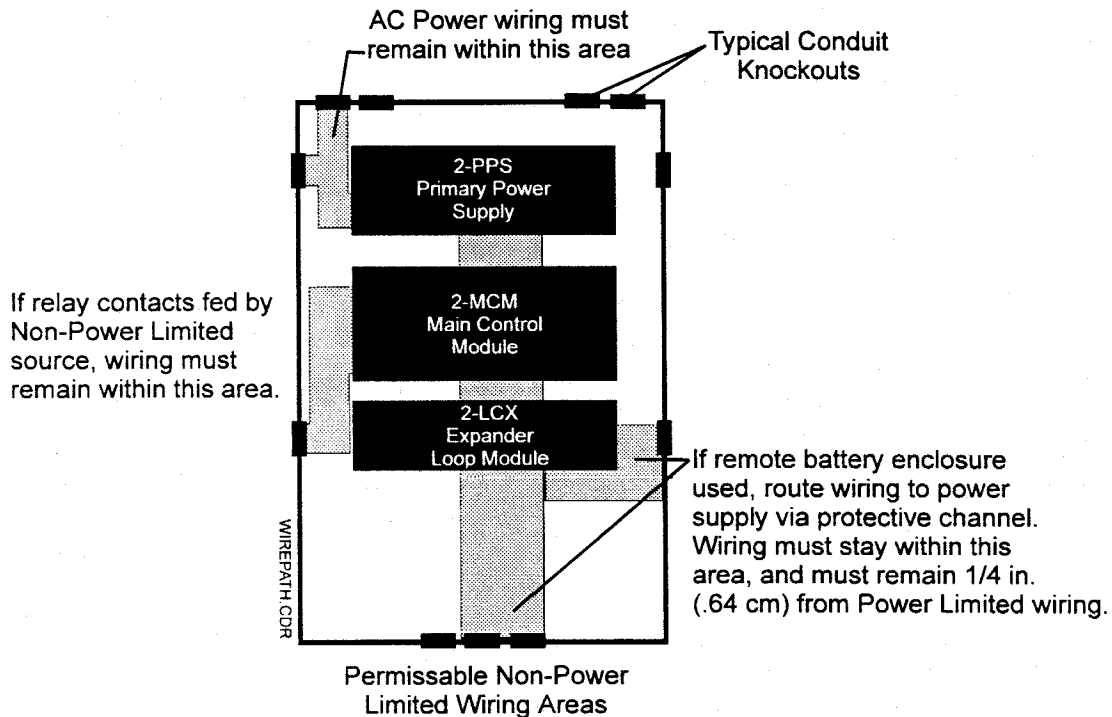
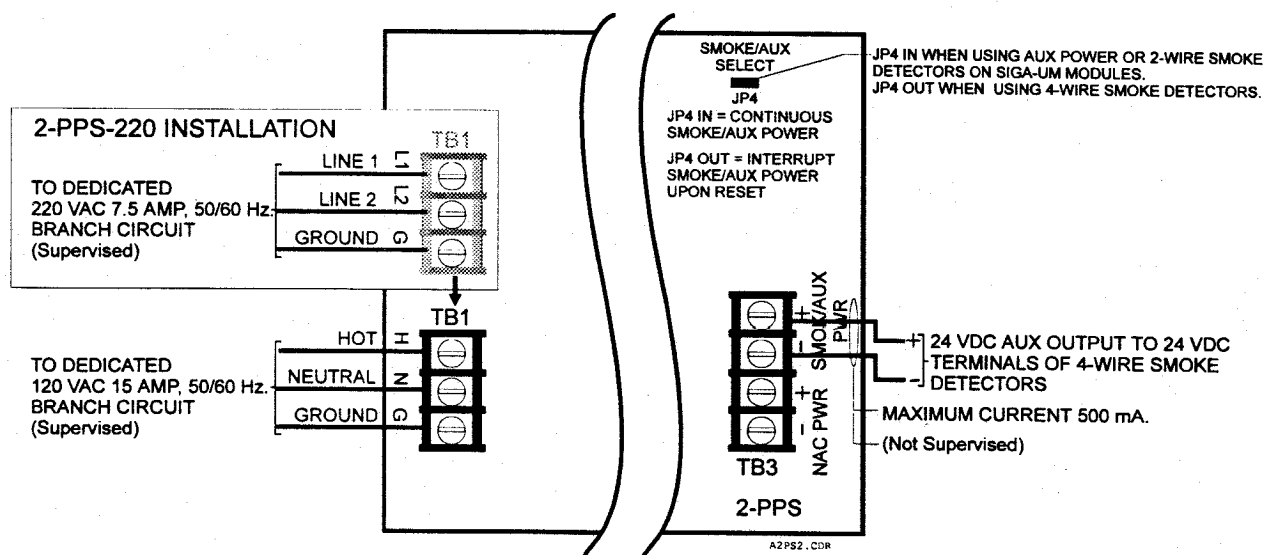

Figure 2.2 - Power Limited Versus Non-Power Limited Wiring Areas
Figure 3.5 Primary Power Supply Connections
Fire Alarm System wiring is classified as either Power Limited or Non-Power Limited per NEC Article 760. **All power limited wiring must be separated from all non power limited wiring by a minimum distance of 1/4 in (6 mm).** Note in Figure 2.2 that AC power must enter the enclosure through the top left or upper left-hand knockouts in the enclosure.
1. Connect the AC power source to TB1 on the Primary Power Supply as shown in Figure 3.5. Route all AC power wiring in non-power limited areas (Figure 2.2).
When the circuit checks out properly, connect it to the appropriate NAC terminals on the Main Controller Module or the Expansion Loop Module, as shown in Figures 3.11 or 3.12. Polarity is indicated for normal monitoring of the circuit's electrical integrity. Route the power limited NAC cables away from the 120/240 VAC power wiring as shown in Figure 2.2.